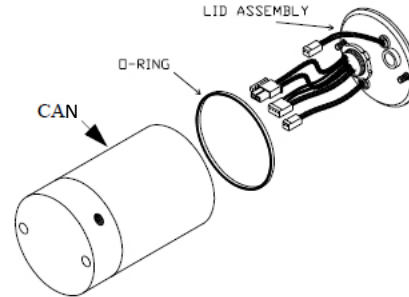
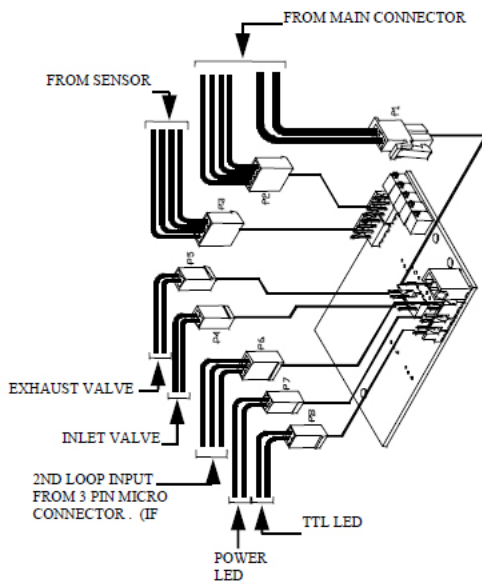

Figure 9
Figure 8
- Figure 8:** Unplug main connector wires and LED wires from the board.
- Figure 9:** Remove lid, lid O-ring and can assembly from manifold.
- Figure 8:** Unplug valve and sensor wires from board.
4. Plug valve, sensor wires into board. **Figure 8**
6. Obtain an assembled lid and plug the main connector and LED wires to the board. **Figure 8**
2. Place lid O-ring on inner edge of can. **Figure 9**. If not already done, plug the main connector wires and LED wires into the board. Refer to **Figure 8** **NOTE:** Make sure while fastening the lid to the can that the O-ring is flat and seals evenly with lid.